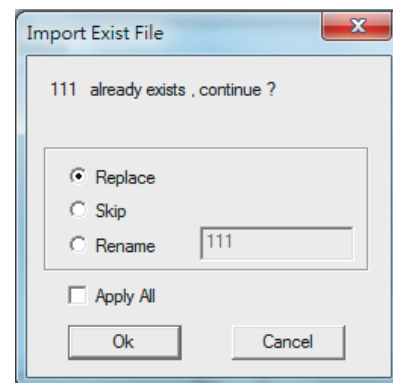

Fig. 1.1.71
1. Click on “File”→ “Configuration Import/Export” to bring out dialog seen as fig. 1.1.71.